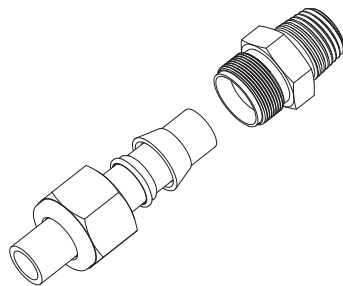

Fig. 1
3. Insert the tubing into the corresponding fitting. Loosen the fitting nut and install it with front and rear ferrules onto the tubing. Direction of nut, front and rear ferrules refers to Fig. 1;